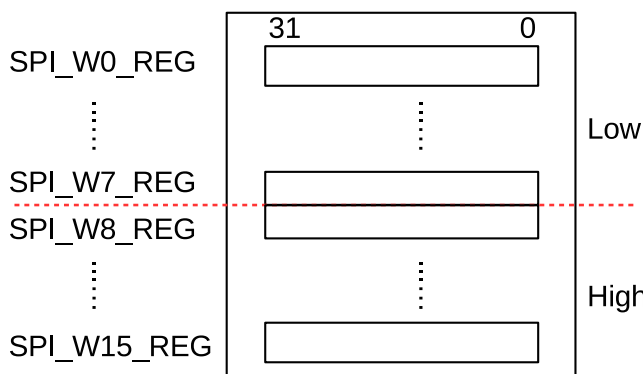

Figure 30-2. Data Buffer Used in CPU-Controlled Transfer
GP-SPI provides 16 x 32-bit data buffers, i.e., SPI_W0_REG ~ SPI_W15_REG, see Figure 30-2. CPU-controlled transfer indicates the transfer, in which the data to send is from GP-SPI data buffer and the received data is stored to GP-SPI data buffer. In such transfer, every single transaction needs to be triggered by the CPU, after its related registers are configured. For such reason, the CPU-controlled transfer is always single transfers (consisting of only one transaction). CPU-controlled transfer supports full-duplex communication and half-duplex communication.
- **SPI Buffer:** `SPI_W0_REG ~ SPI_W15_REG`, see Figure 30-2. The data transferred in CPU-controlled mode is prepared in this buffer.